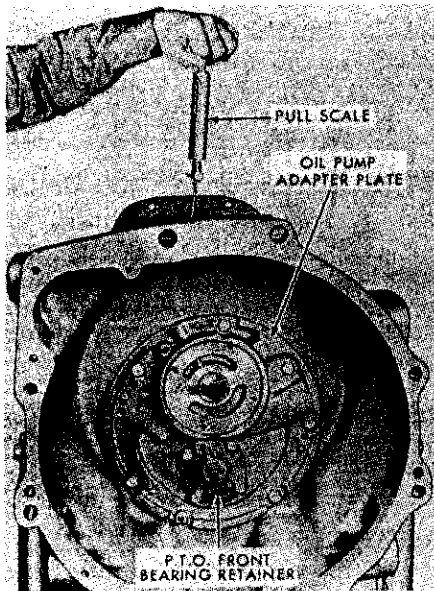

Fig. 307—Checking PTO countershaft bearing preload with pull scale and cord wrapped around shaft.
Tighten the PTO front bearing retainer (1) cap screws to a torque of 14-17 Ft.-Lbs. Wrap a cord around the PTO shaft and attach a pull scale as shown in Fig. 307. Bearing preload is correct when a steady pull of 18 to 25 pounds is required to keep the shaft rolling. Add or remove shims as required to obtain proper bearing preload.